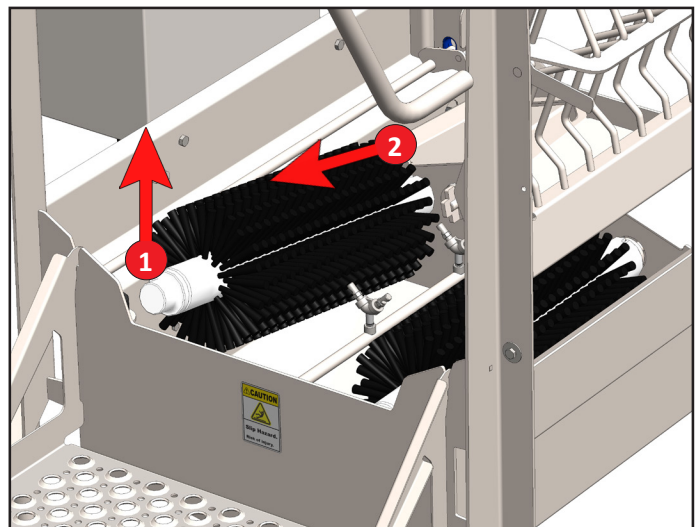

Fig. 8.3: Brush removal process
2. Lift each brush out of the tub by grabbing the open end and lifting up [Figure 8.3 - Arrow 1].
3. With the open end lifted, the brush can be detached from its anchor [Figure 8.3 - Arrow 2].